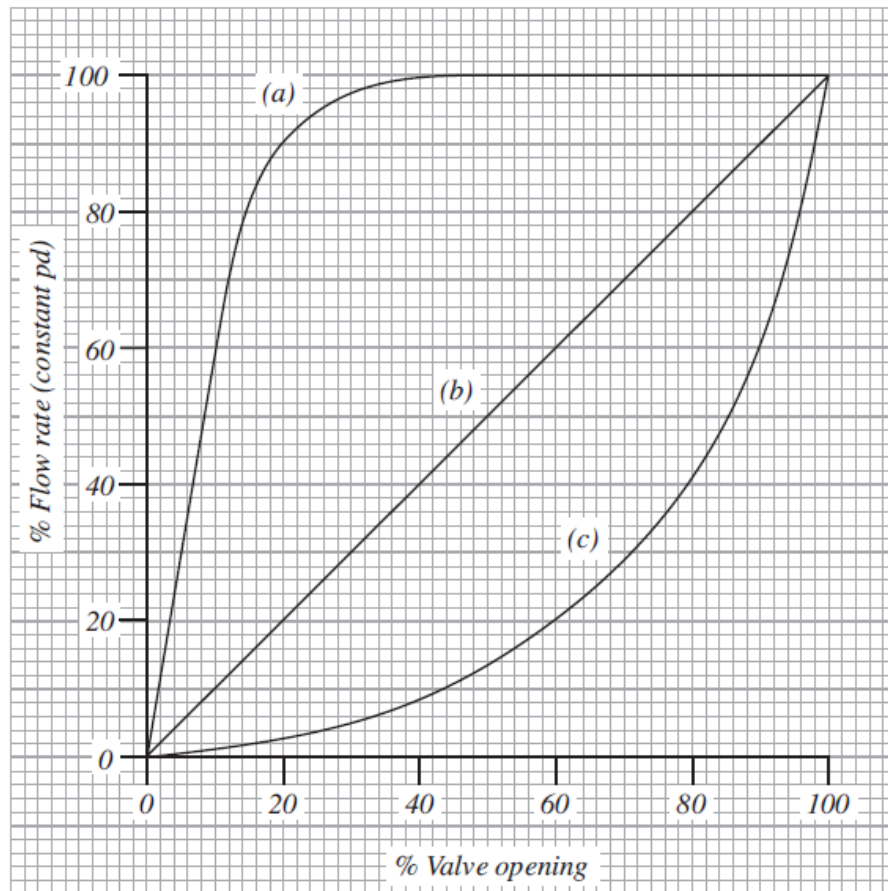

FIG. 1
2. FIGURE 1 shows the valve characteristics of three different types of valve trim.